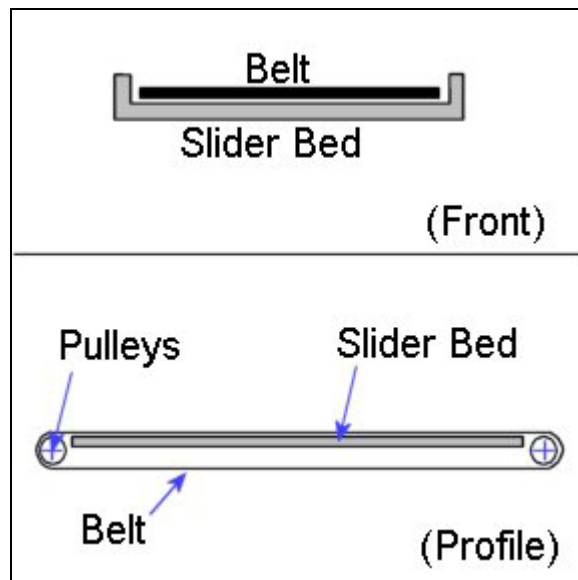

Figure 4. Slider Bed Conveyor.
**Slider Bed** conveyors consist of a flat bed (constructed of steel, although other materials may be used) to support the conveying surface, and a drive pulley (Figure 4).